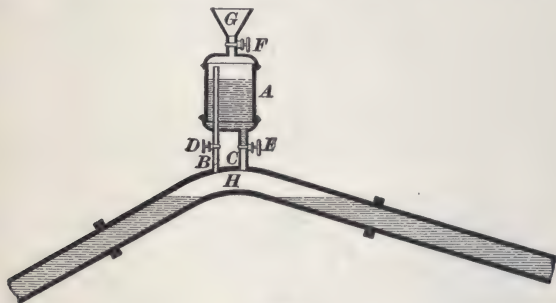

FIG. 24.
**67.** A device that will remove the air is shown in Fig. 24. Here  $A$  is an air-tight vessel connected with the siphon by two small pipes  $B$  and  $C$ . The pipe  $B$  extends nearly to the top of  $A$ , while the pipe  $C$  barely enters the bottom. Each pipe has a valve  $D$  and  $E$ . A valve  $F$  and funnel  $G$  are placed on top of the vessel. When the siphon ceases to flow, which is an indication that air has collected (it is here